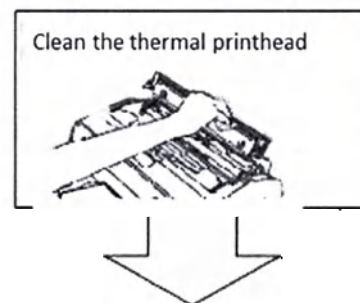

Figure 28 – Cleaning the thermal printhead
- Clean the thermal printhead. To clean the thermal printhead, use a cloth (not linen) completely soaked in surgical spirit (Figure 28).